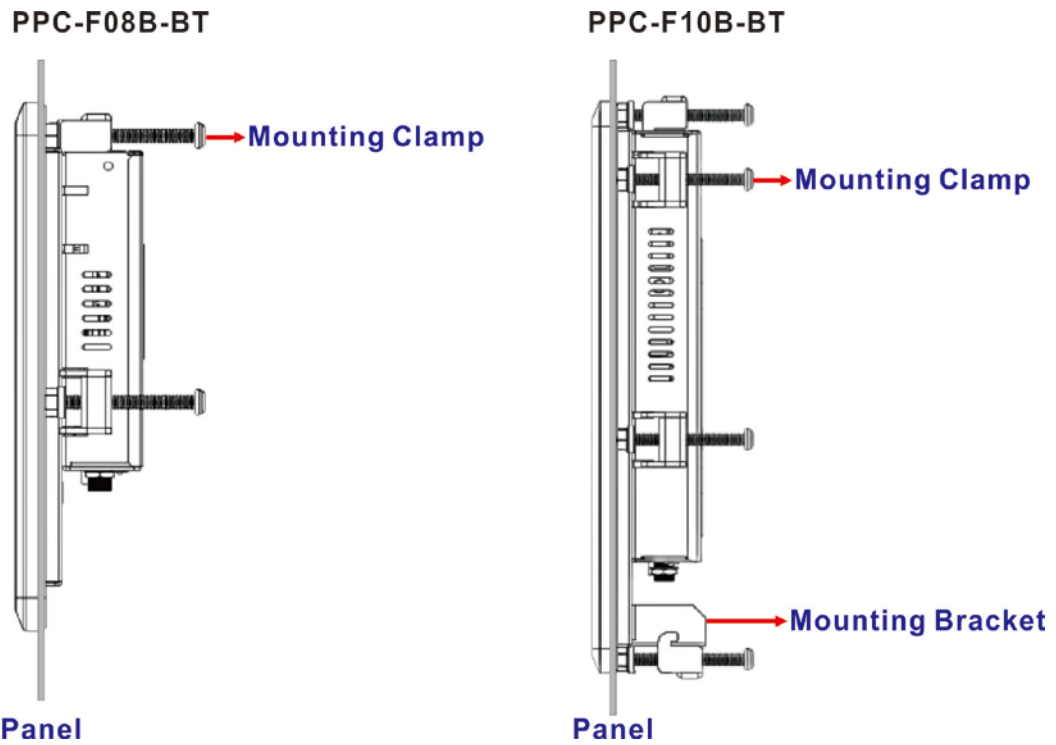

Figure 3-25: Tighten the Mounting Clamp Screws
Step 5: Insert the mounting clamps into the mounting brackets and pre-formed holes along the edges of the PPC-F08B/F10B-BT, behind the aluminum frame (Figure 3-25).
Step 6: Tighten the screws that pass through the mounting clamps until the plastic caps at the front of all the screws are firmly secured to the panel (Figure 3-25).